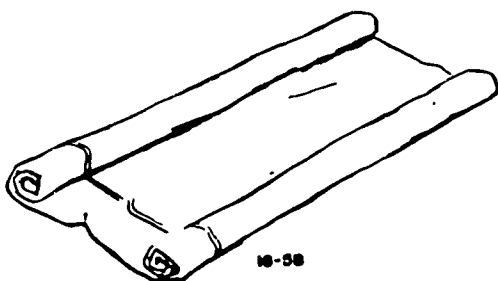

Figure 1-10. Blanket roll litter.
d. Blanket roll litter. When you can't find poles or material to make a door litter, you can roll a blanket, shelter half, or poncho from both sides to the center, as shown by figure 1-10. Use the rolled material as grips when carrying the injured. You can use this litter with all victims.